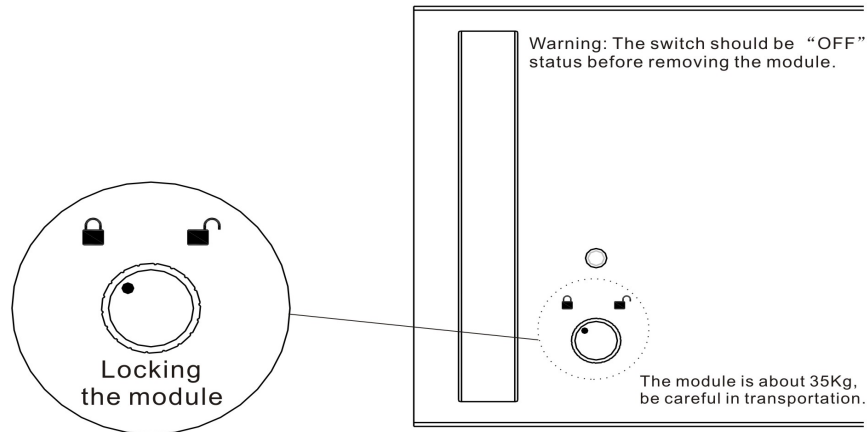

Fig. 1-2
3. Set the position lock located on the front panel of the module to “” and turn on the input breaker of the module behind the cabinet. (You should open the rear door first.)(Fig. 1-2)